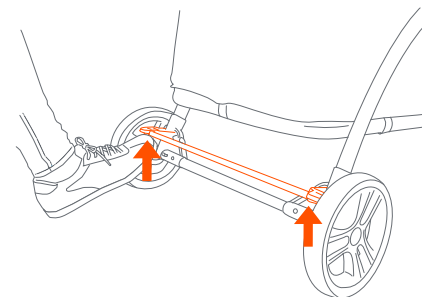

Fig. 12b
- To release, gently lift up on the brake lever (Fig 12b).